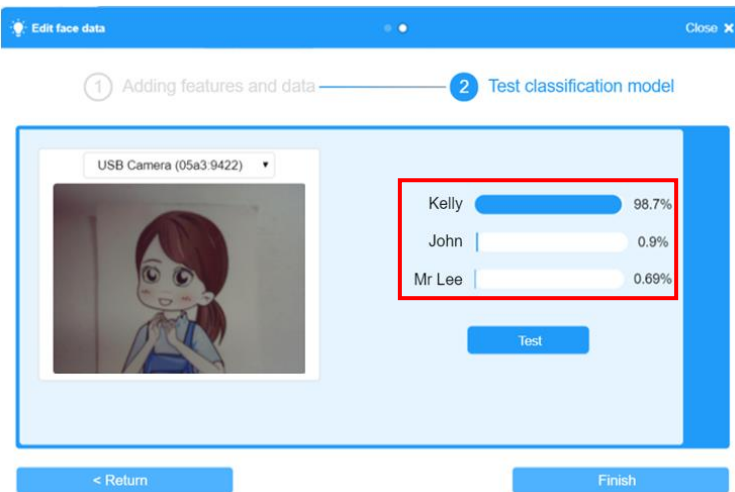

Figure 5.10 Testing
Step 4: Test the classification model. Model testing is the process of facial image recognition and classification. Figure 5.10 shows the testing.